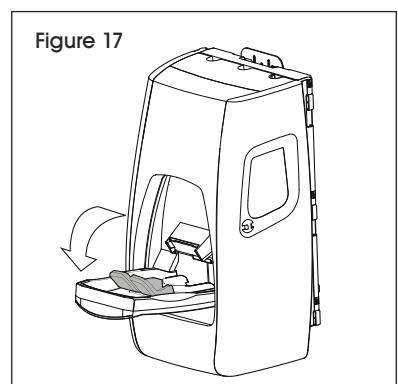

Figure 16
- Open front door. (See Figure 16)